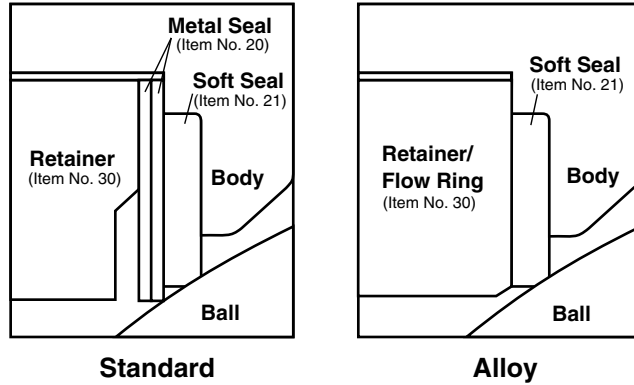

Figure 4: Soft Seals
13. Replace the soft and/or metal seal rings, as applicable to the application. (Refer to Figure 4.)
(*See Figure 4 for seal configurations and item numbers.)